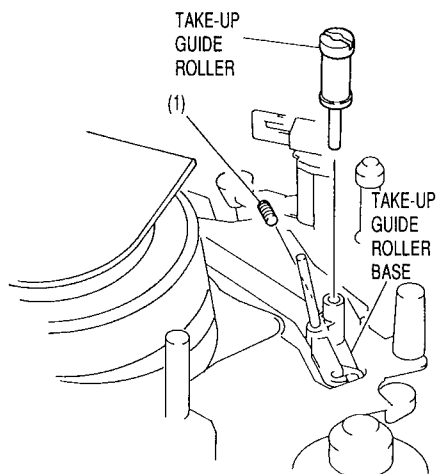

Fig. 3-19
- 1) Loosen 1 hexagonal screw (1) holding the take-up guide roller. (See Fig. 3-19)